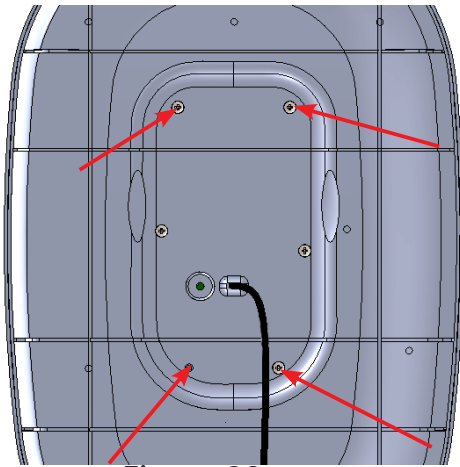
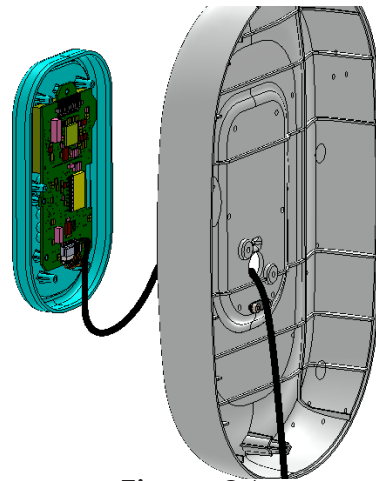

Figure 93
Figure 94
- Remove the console assembly from the base unit front cover by removing 4 M3x16 self tapping screws using star screw driver as shown in Figure 93 and Figure 94 .
- Route the cable through the slot provided on the base unit front cover as shown in Figure 94 and fix the console assembly to the front cover with 4 M3x16 self tapping screws using phillips screw driver as shown in Figure 93 .